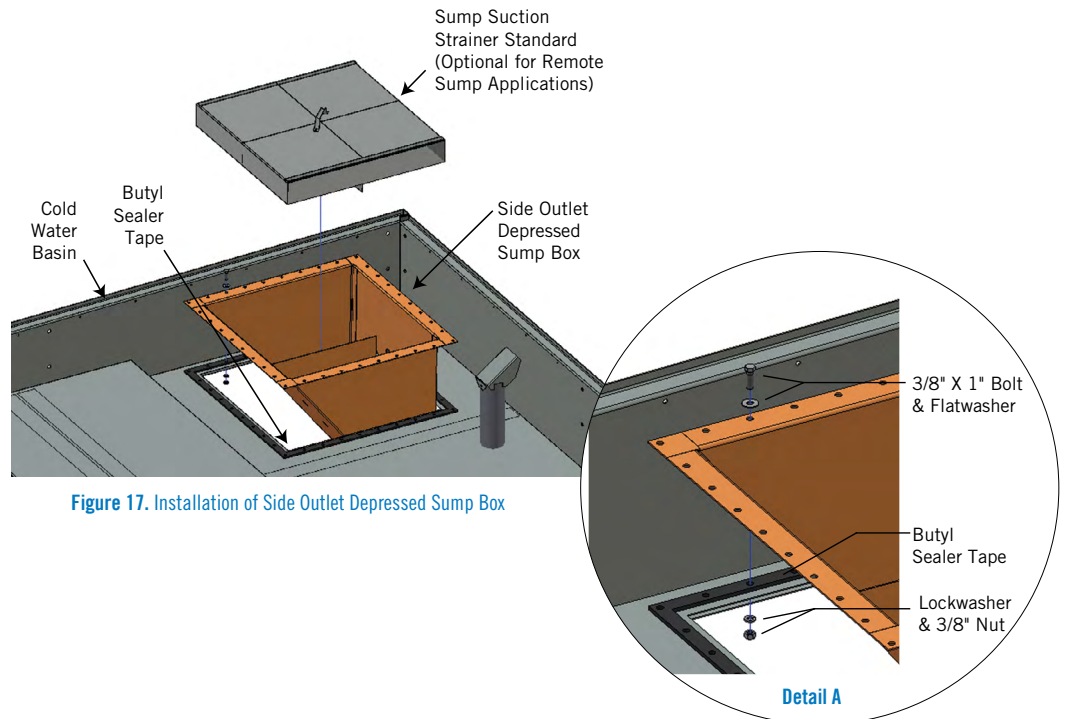

Figure 17. Installation of Side Outlet Depressed Sump Box
2. Apply a layer of 1/8" x 1" butyl sealer tape around the opening in the basin over the centerline of the holes. Do not stretch the sealer tape too thinly or overlap at the corners. When it is necessary to splice the sealer tape, be sure to press the two ends together to form a smooth continuous strip. Apply a second layer of sealer tape over the first layer following the same procedure. Refer to **Figure 17**. The sealer tape needs to be positioned between the sump box and the inside basin bottom.
3. Insert the sump box assembly into the opening in the cold water basin and attach it to the basin with 3/8" x 1" bolt and nuts, flat washers, and lock washers as shown in **Figure 17, Detail A**.
4. Place the suction strainer over the opening as shown in **Figure 17**.